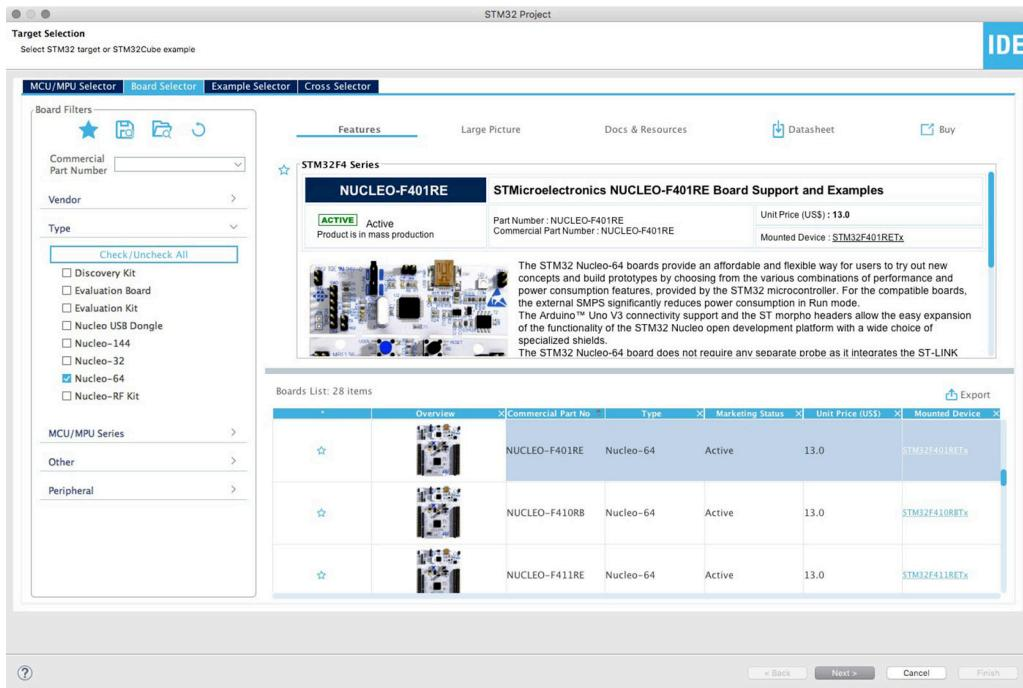

Figure 3.1: The Target Selection wizard - STEP 1
Start by navigating to **File->New->STM32 Project**. After a few moments, depending on your current IDE setup, the **Target Selection** wizard will appear (as shown in Figure 3.1).
Next, switch to the **Board Selector** tab (highlighted in light blue in Figure 3.1). Expand the **Type** dropdown menu and choose the **Nucleo-64** family of boards. From the resulting list, locate and select your specific Nucleo-64 board model to proceed.
Once you have selected your board from the list, click the **Next** button. In the following window, enter a name for your project in the **Project Name** field (for example, *hello-nucleo*, although you can choose any name that fits your project). Leave all other options at their default settings, as shown in **Figure 3.1**, and click **Finish** to begin generating the project.
- **Examples projects for development boards:** ST offers a wide range of example projects for its development boards. These projects demonstrate how to use specific features of the board and can serve as valuable references for your own work. To browse these examples, click on the **Example Selector** tab in the **Target Selection** wizard (as shown in Figure 3.1). They can be an excellent starting point for your development.